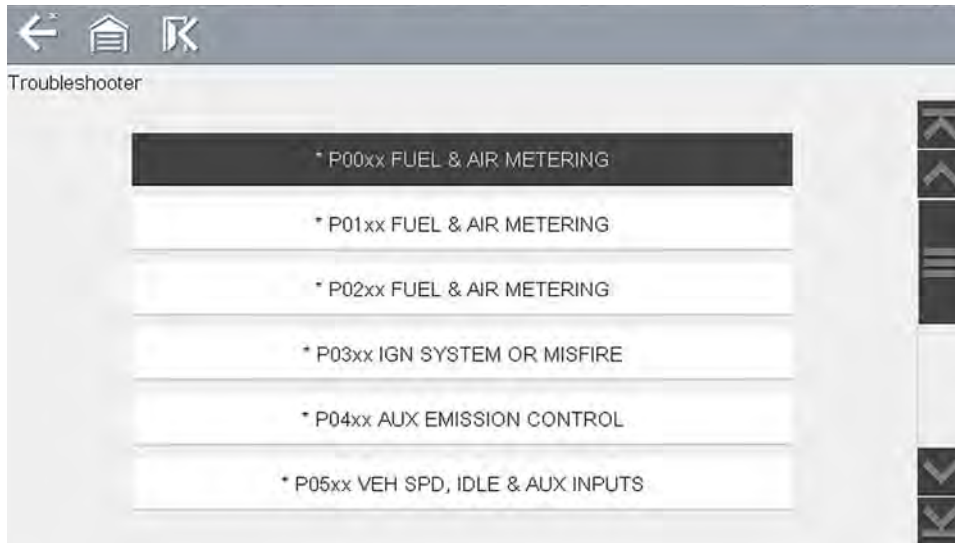
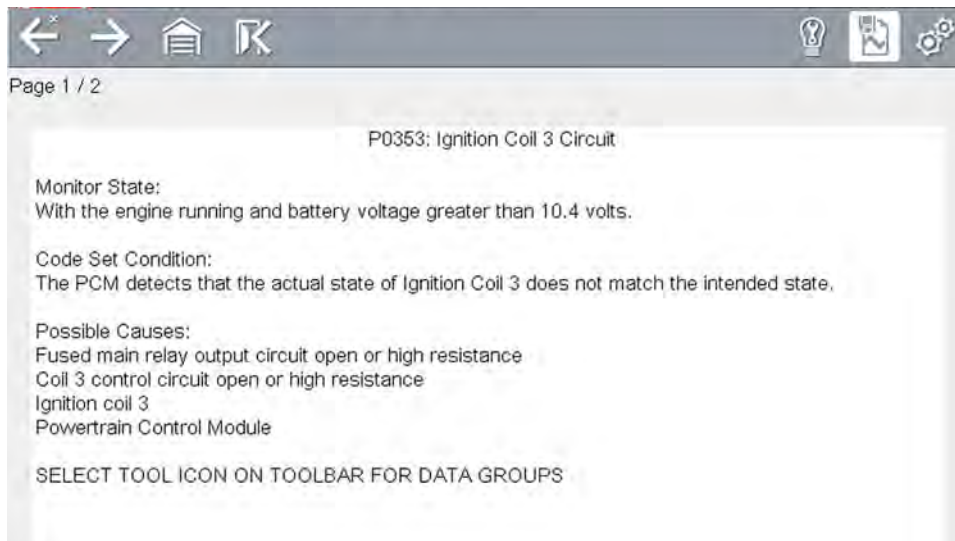

Figure 5-50 Troubleshooter code tip menu
Figure 5-51 Troubleshooter tip (Example: P0353)
- **Code Tips**—provides detailed information on setting conditions, testing, and interpreting test results for specific codes (Figure 5-50 and Figure 5-51).